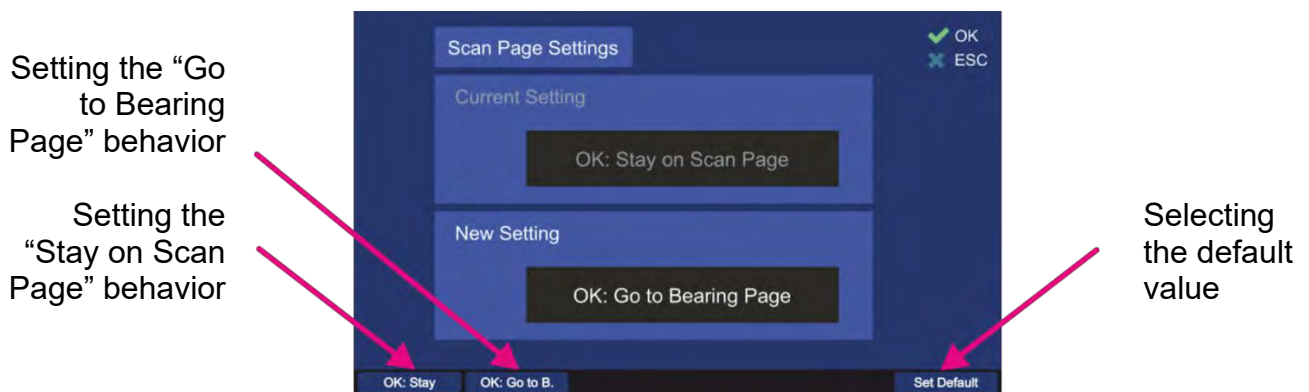

Fig. 129 Scan page settings dialog
- By pressing the “OK button or hotkey “Edit Value” (s. Fig. 106), while the setting “Scan Page Settings” is marked, the following dialog is opened (s. Fig. 129).
- Choose the new setting using one of the hotkeys (s. Fig. 129), which will then appear in the “New Setting” field.